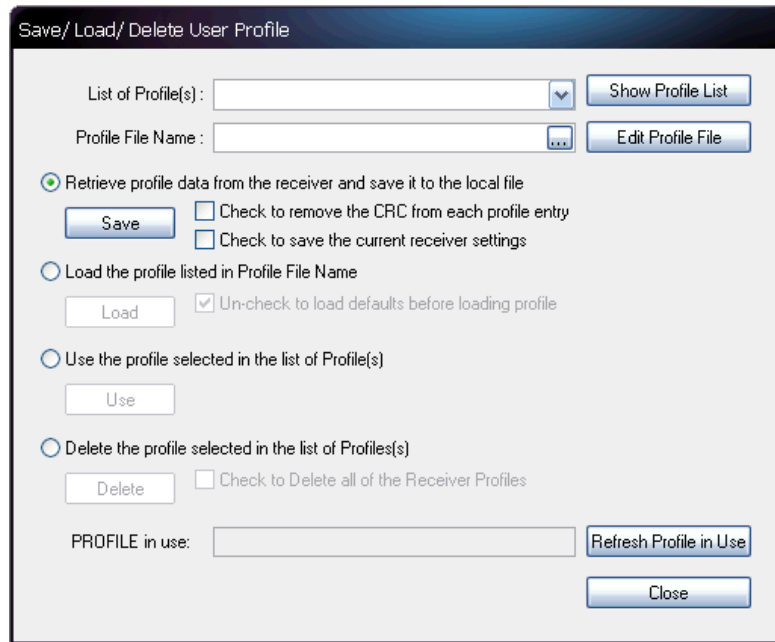

Figure 97: Profile in Use
Refer to Figure 97 for the steps below:
- Click the OK button. The profile name is displayed in the *PROFILE in use* text box at the bottom of the *Save/Load/Delete User Profile* dialog box (see Figure 97).
- Click the OK button. The profile name is displayed in the PROFILE in use field at the bottom of the *Save/Load/Delete User Profile* dialog box (see Figure 97).